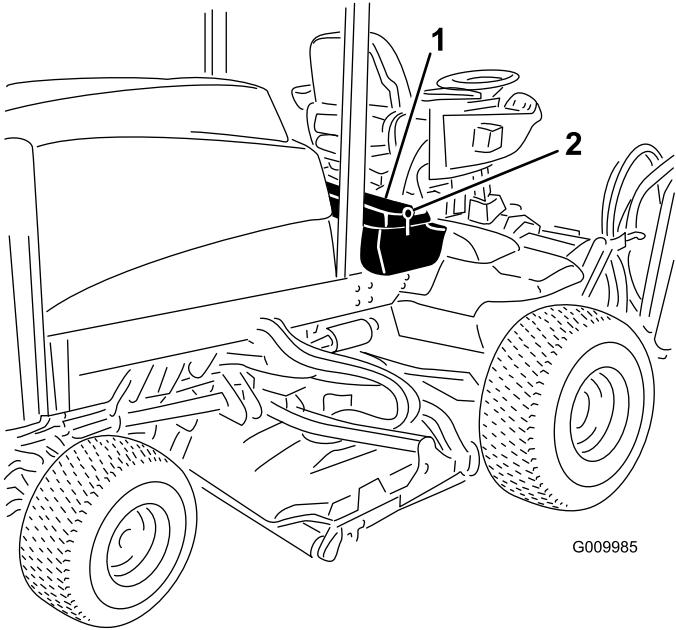

Figure 60
1. Unlatch and raise the console panel (Figure 60).